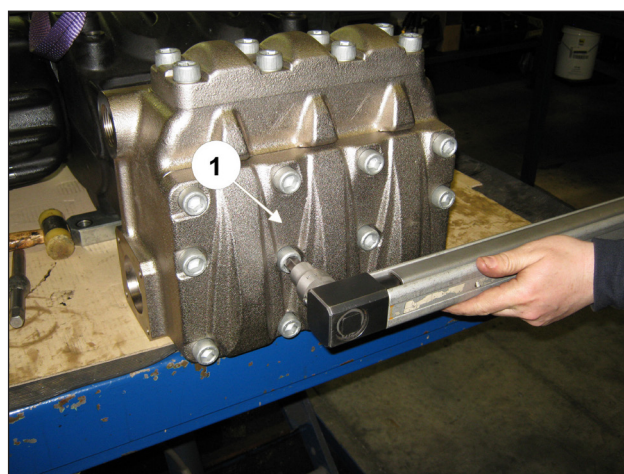

Fig. 149
Tighten the 6 M16x200 screws starting crosswise from the 4 inner screws, to then proceed with the 2 outer screws, always tightening crosswise (pos. ①, Fig. 149).